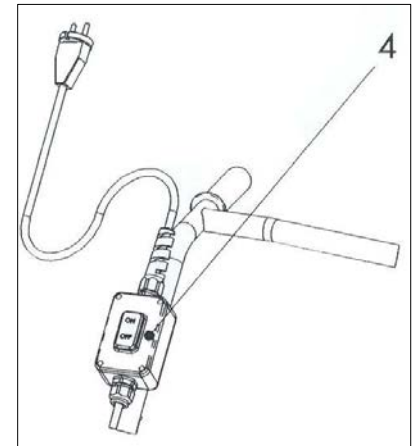

Fig. 1.7-3
- 3rd.- To Make sure that the position of the outburst switch, **Pos. 4** located above the box of connections of the motor are in position "OFF". (**Sees you Fig. 1.7-3**).